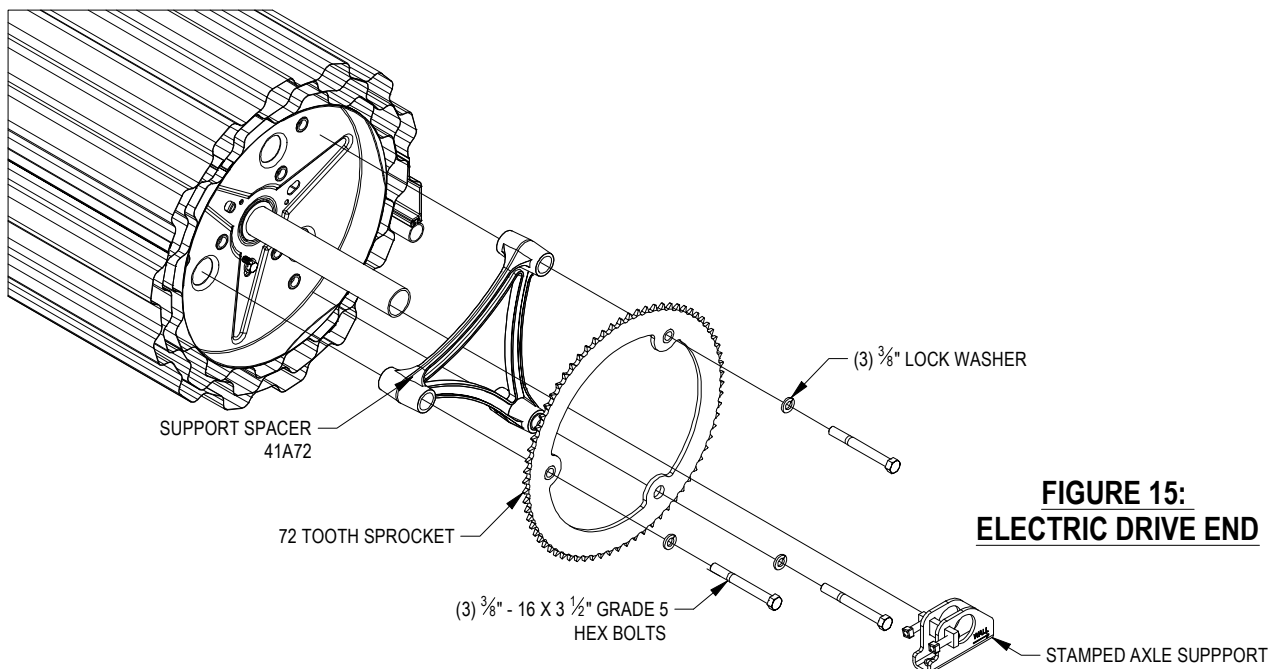

FIGURE 15:
- Attach Support Spacer and Sprocket to drum using three (3) $\frac{3}{8}$ " Lock Washers and $\frac{3}{8}$ " - 16 x 3 $\frac{1}{2}$ " Hex Bolts.
- Tighten $\frac{3}{8}$ " - 16 Square Head Set Screws when in place. **See Figure 15.**